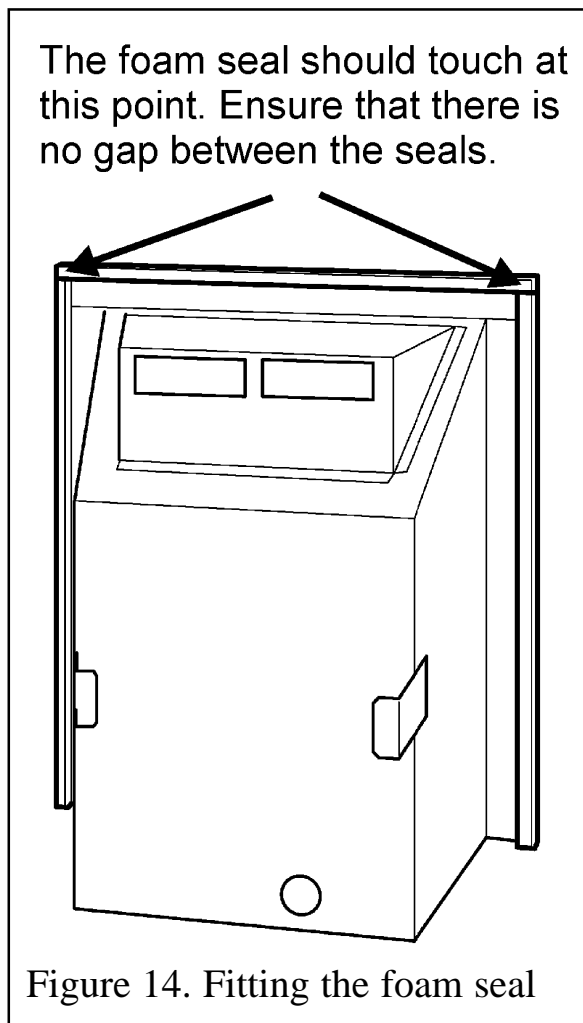

Figure 14. Fitting the foam seal
10. There is a length of self adhesive foam seal supplied with the fire. This will need to be fitted to the outer rear edges of the side and top flanges of the convection box. Cut a 485mm length of foam seal. Be careful not to stretch the seal when measuring. Remove the protective backing from the foam seal and fit this to the rear of the top flange (See figure 14). Cut two 580mm lengths. Fit these to the rear outer edges of the side flanges. Ensure that there is no gap between the foam seals where they meet at the top flange (See figure 14).